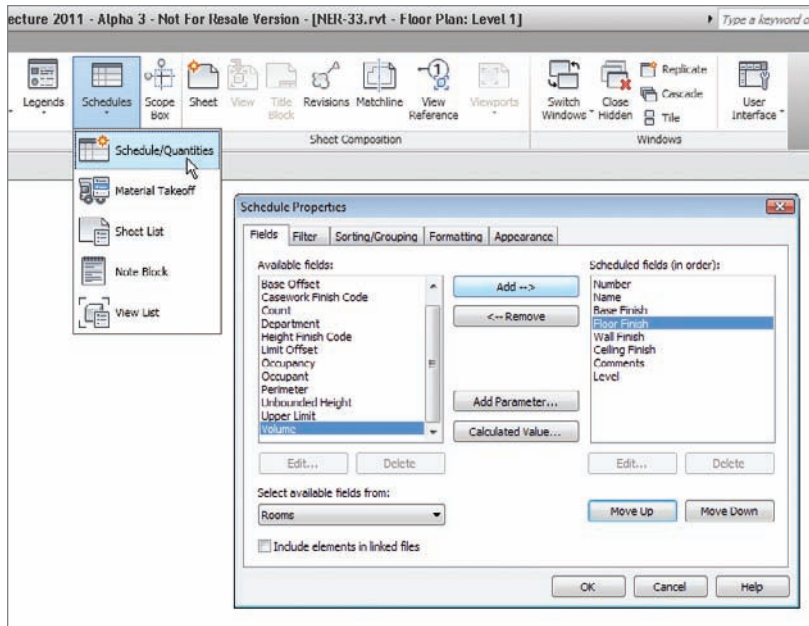

FIGURE 15.17 Adding the fields to the schedule
1. On the View tab, click Schedules and then click the Schedule/Quantities button, as shown in Figure 15.17.
4. In the Fields tab of the Schedule Properties dialog that opens, add the following fields in the specified order (see Figure 15.17):